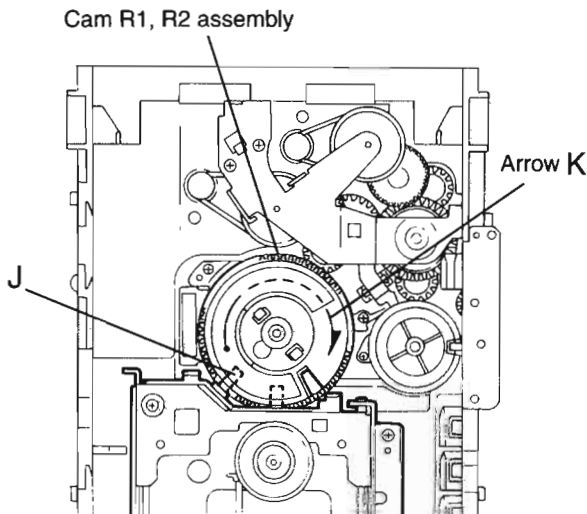

Fig.11
Removing the CD mechanism (See Fig.11 and 12)
1. For dismantling only the CD mechanism without removing the CD mechanism assembly, align the shaft "J" of the CD mechanism assembly to the position shown Fig.11 while turning the cam R1 and R2 assembly in the arrow direction "K".